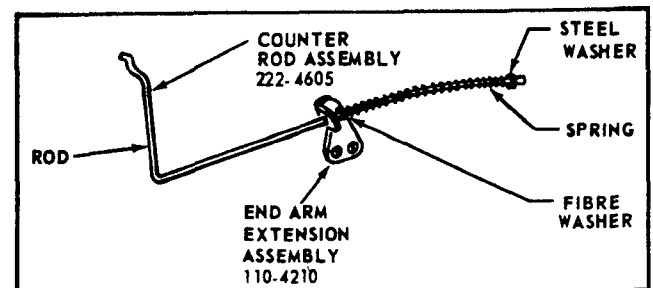

Figure 2.
6. Insert the Counter Rod Assembly, part number 222-4605 through the hole in the End Arm Extension, part number 110-4210. See Figure 2.